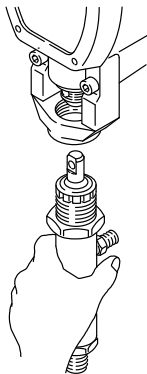

Fig. 36
1. Screw the displacement pump into the bearing housing (27) until the pin holes align. See Fig. 36.